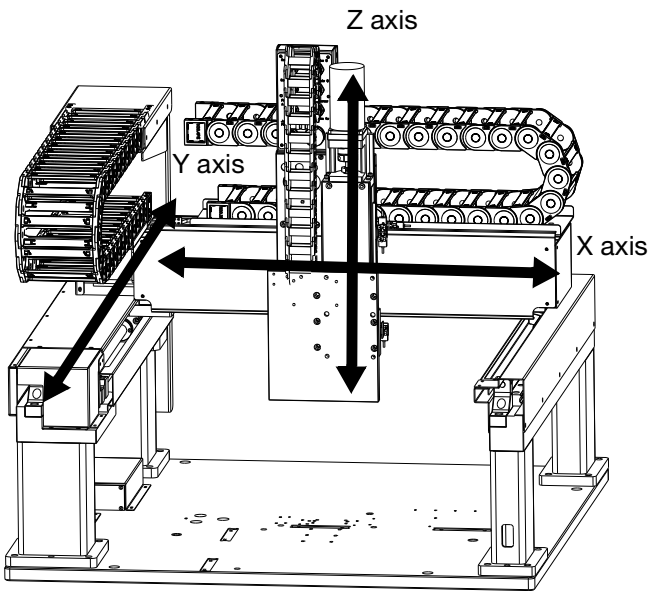

FIG. 2: Dispenser Axis Movement
3. Ensure that the axes moves freely left to right and front to back along the axes as shown in FIG. 2, and that there are no physical obstructions to movement.